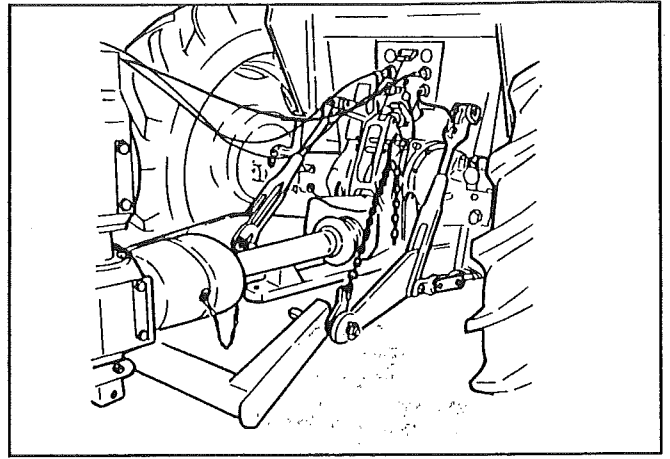

Fig. 2
- FIG. 2** Mount the supplied stabilizing chain. Connect the PTO-shaft to 1000 RPM on the PTO.